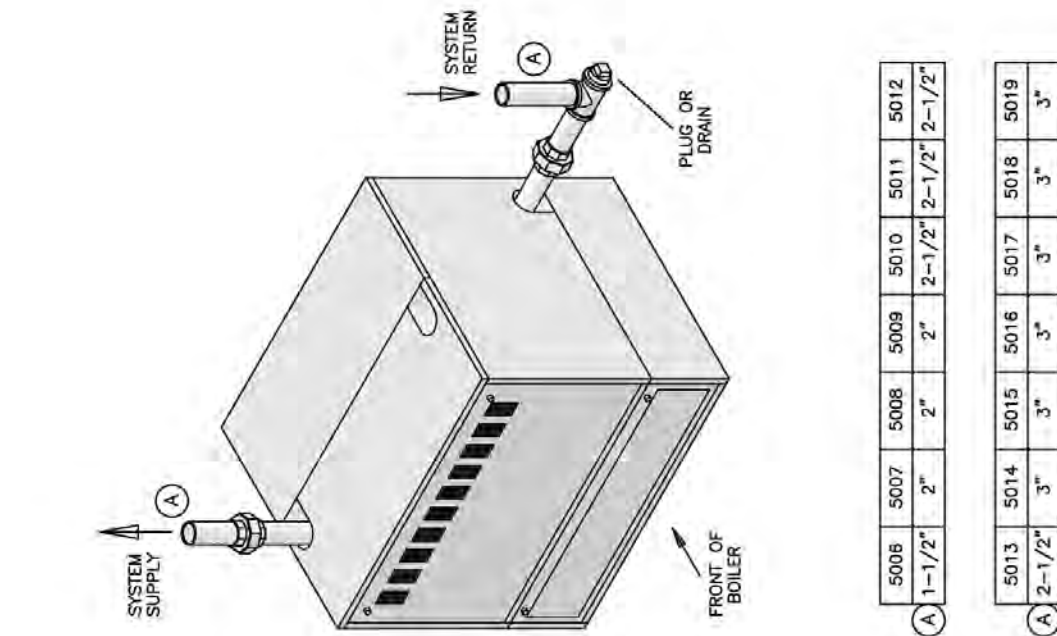

FIG. 14A
- b. With Forced Circulation HOT WATER HEATING SYSTEMS, see Fig. 14A and 14B. For additional reference, consult I=B=R Installation and Piping Guide No. 250.